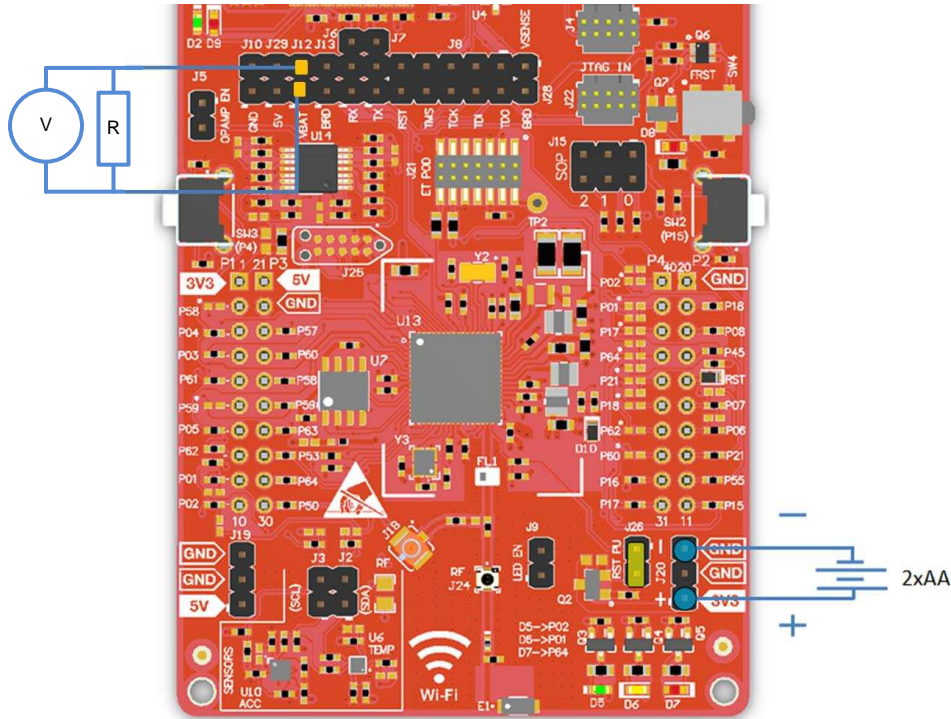

Figure 16. Active Power Measurements (>1 mA)
2. Solder a 0.1- Ω resistor on a wire, which can be connected to a voltmeter or oscilloscope as shown in Figure 16. Or, attach a jumper wire between J12 so that it can be used with a current probe.